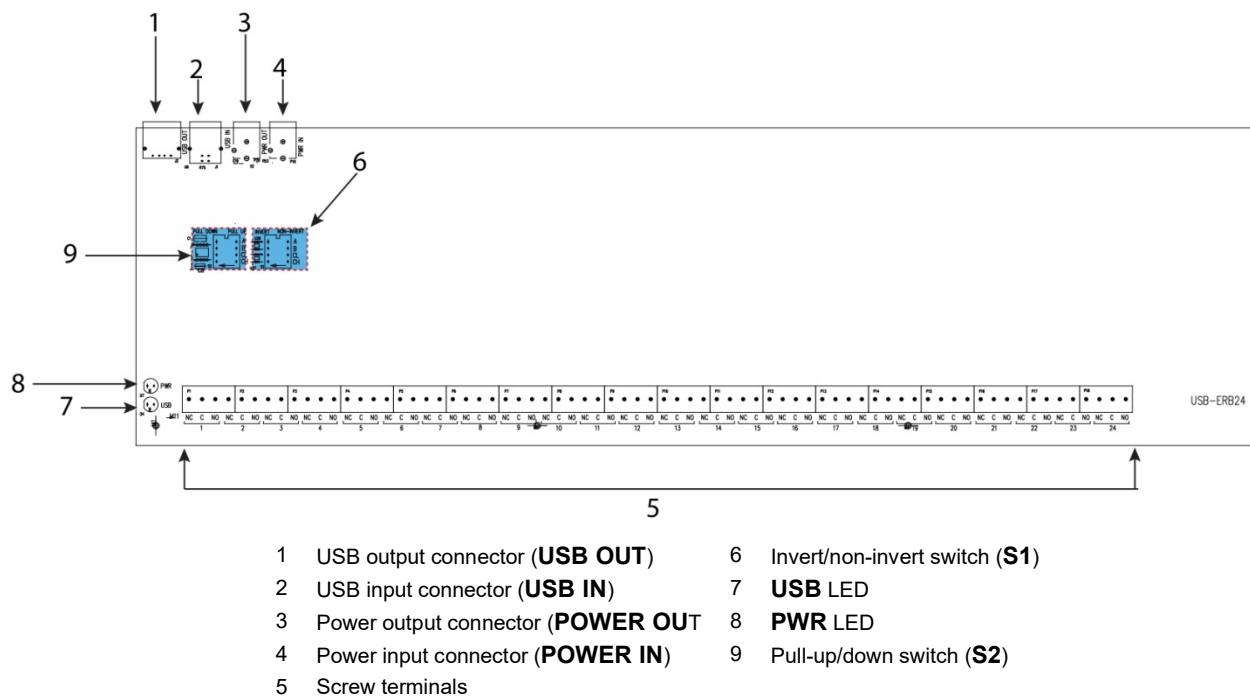

Figure 5. USB-ERB24 components
The USB-ERB24 has banks of onboard switches that configure the relay logic polarity and relay power-up state. Configure these switches before you connect the external power supply to the USB-ERB24. Factory-configured default settings are listed in the table below. Refer to Figure 5 on page 9 for the location of each switch.
1. Connect the external power cord to the power connector labeled **POWER IN** on the USB-ERB24 enclosure (**PWR IN** on the board). Refer to Figure 5 for the location of this connector.
The **USB LED** turns on. Refer to Figure 5 on page 9 for the location of the **USB LED**.
The USB-ERB24 has the following internal components, as shown in Figure 5.